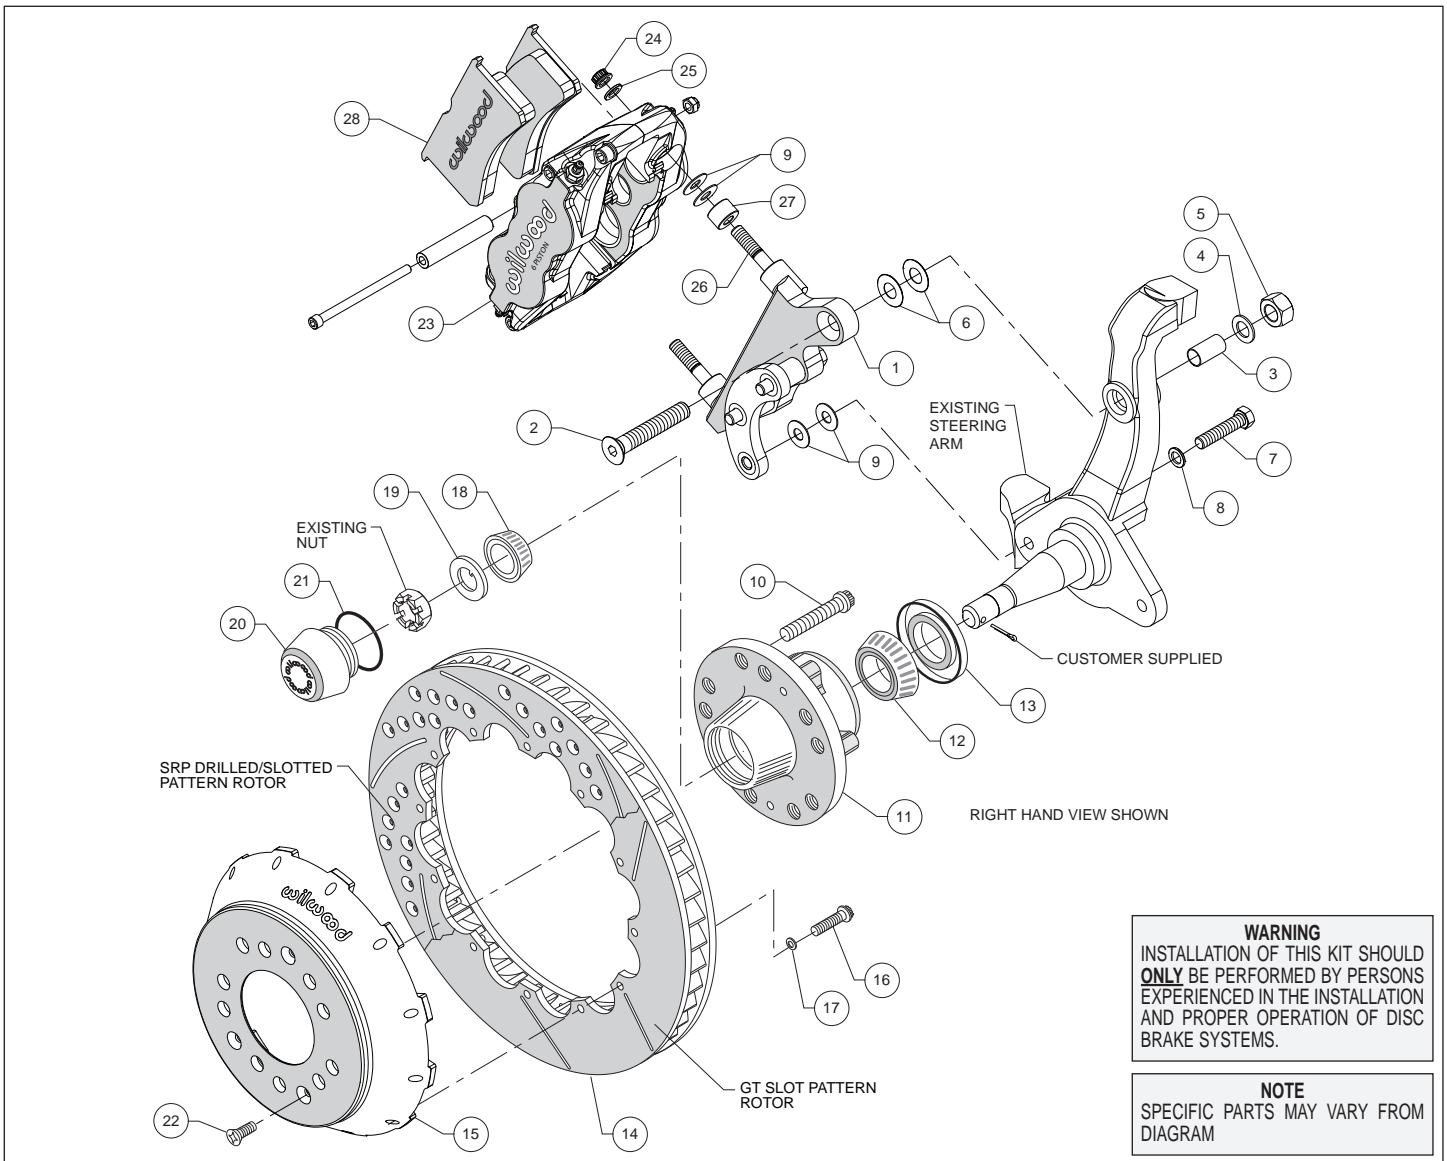
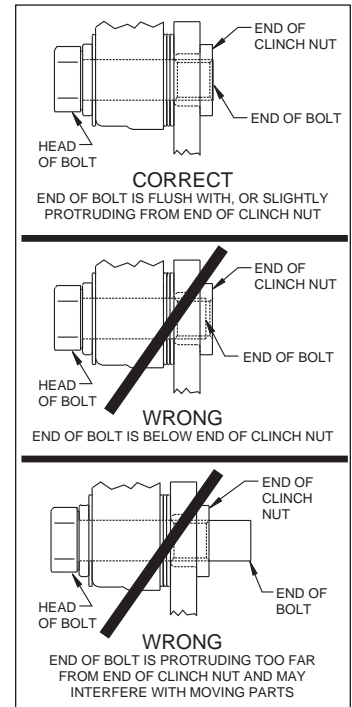

Figure 1. Typical Installation Configuration
Figure 4. Clinch Nut Engagement Diagram
**Assembly Instructions** (numbers in parenthesis refer to the parts list and Figure 1 on the preceding pages): **CAUTION:** All mounting bolts must fully engage clinch nuts. Be sure to check that all bolts are either flush or protruding through flanged side of clinch nut after shimming, Figure 4.
- The caliper bracket (1) should initially be installed with clean, dry threads on the mounting bolts. The bracket has been assembled at the factory for alignment purposes. Loosen the two bolts that secure the brackets together so that the bolts are hand tight only. This will enable the bracket assembly to be adjusted to accommodate various spindle tolerances during assembly. Insert sleeve (3) into top mounting hole on the spindle, Figure 1. Orient the bracket as shown in Figure 1 and install using bolt (2), washer (4), and nut (5), in the upper hole, as shown in Figure 1 and Photo 1. Initially use two .032" thick shims (6) on the upper bolt between the bracket and spindle, Figure 1. Install bolt (7) and washer (8) in the lower hole, Figure 1. Initially use two .035" thick shims (9) between the bracket and spindle face. Temporarily tighten the mounting bolts, followed by the two bracket-to-bracket bolts. **NOTE:** The bracket must fit squarely against the mounting points on the spindle. Inspect for interference from casting irregularities, machining ridges, burrs, etc. Later, after the bracket and caliper alignment has been checked, the bolts will be secured using red *Loctite*® 271.
- Check that the bracket (1) is aligned parallel to the rotor (14), Photo 2, by assembling and installing the hub, hat, and rotor per the steps below. If not, parallel adjust by adding or subtracting shims (9) on the lower bolt between the spindle and bracket, Figure 1, Photo 2.
- Install wheel studs (10) into the hub (11), Photo 3. Torque to 77 ft-lb. **NOTE:** There are two five lug patterns in the hub (5 x 4.50 and 5 x 4.75). Ensure the correct hub stud pattern is being used to fit the wheel application.
- Pack the large inner bearing cone (12) with high temperature disc brake bearing grease (available from your local auto parts store) and install into the backside of the hub (11), Photo 4.
- Install the grease seal (13) by pressing into the backside of the hub (11), flush with the end of the hub, Photo 4.
- Orient the rotor (14) and the hat (15) as shown in Figure 1 and Photo 5. Attach rotor to hat using bolts (16) and washers (17). Using an alternating sequence, apply red *Loctite*® 271 to the
- Pack the small outer bearing cone (18) with high temperature disc brake bearing grease and install into hub (11). Slide the hub assembly onto the spindle. Secure using spindle washer (19) and OEM spindle nut, Photo 6. Adjust bearings per OEM specifications. Install saved OEM nut lock (if any) and a new cotter pin (not included).
- Screw dust cap (20) into hub (11), Photo 7. Friction created by the o-ring (21) on the dust cap keeps it from unscrewing. **NOTE:** *The O.D. of the existing OEM spindle washer may be larger than the I.D. of the dust cap not allowing it to seat against the hub face. Therefore, use the spindle washer (19) supplied with the kit instead of the OEM washer.*
- Slide the hat/rotor assembly (14/15) onto the hub (11) taking care to align the small countersunk holes in the hat with the small threaded holes in the hub. **NOTE:** *The hat must fit flush against the hub face or excessive rotor run out may result.* Install three flat head screws (22) through the small holes in the hat, Photo 7, and torque to 85 **in-lb**.
- NOTE:** *This kit contains distinct right and left hand calipers that must be mounted in a specific direction, as described below.* Lubricate the caliper mounting studs (26) with lightweight oil. Initially place one spacer (27), and two .035" thick shims (9) on each stud between the caliper and the bracket, as shown in Figure 1 and Photo 8. Mount the caliper (23) onto the bracket (1) using lock nuts (24) and washers (25), Figure 1. Ensure that the caliper is mounted so the largest pistons are at the rotor exit end of the caliper, in relation to the direction of rotor rotation. Temporarily tighten the lock nuts and view the rotor through the top opening of the caliper. The rotor should be centered in the caliper, Photo 9. If not, adjust by adding or subtracting shims (6 upper bolt, and 9 lower bolt) between the spindle and the caliper bracket. Always add or subtract the same amount of shims on each of the two mounting bolts to keep the bracket parallel to the rotor. **NOTE:** *The end of the lower bolt must be flush with, or slightly protruding from, the head of the clinch nut, as shown in Figure 4.* If necessary place spare shims between washer (8) and spindle to achieve the proper clinch nut engagement.